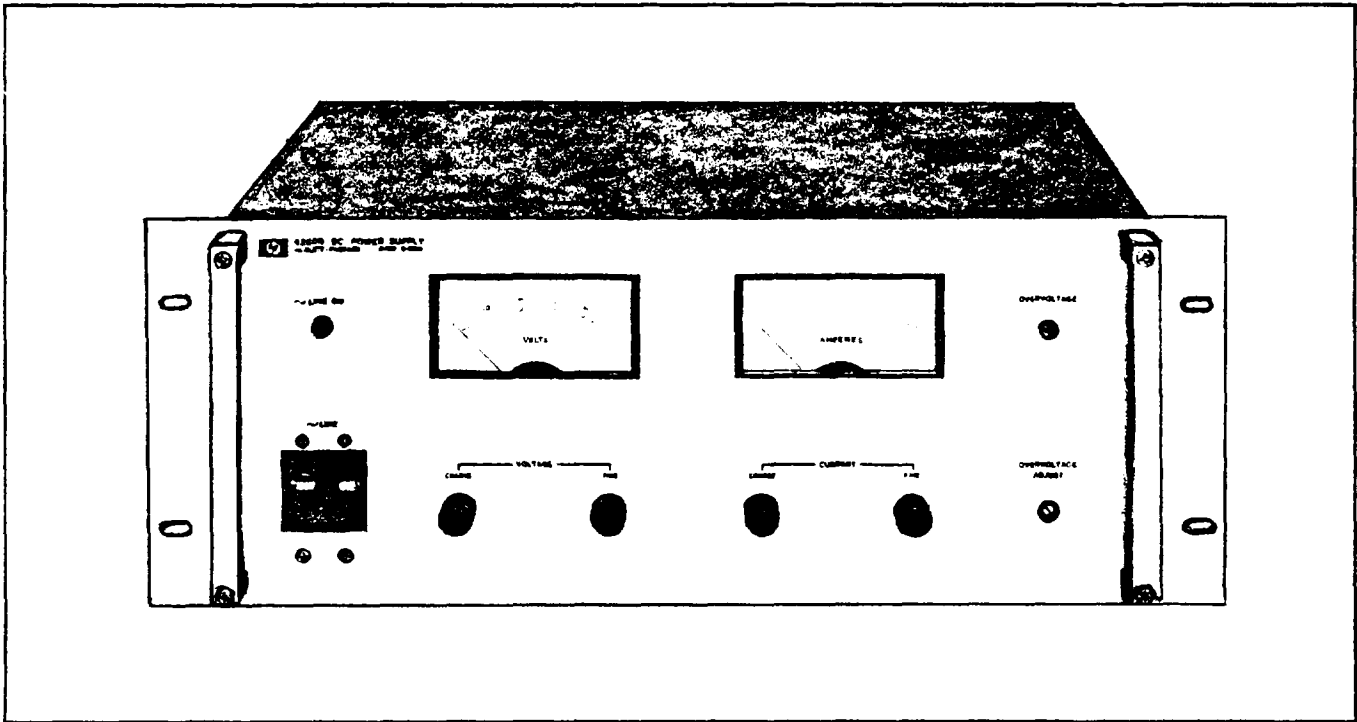

Figure 1-1. DC Power Supply, Model 6259B, 6260B, 6261B, 6268B, or 6269B
a. This manual describes DC Power Supply PP-7545/U (fig. 1-1) and provides maintenance instructions. Throughout this manual, PP-7545/U is referred to as the Hewlett-Packard (HP) Model 6269B DC Power supply.
1-2 This power supply, Figure 1-1, is completely transistorized and suitable for either bench or relay rack operation. It is a well-regulated, constant voltage/constant current supply that will furnish full rated output voltage at the maximum rated output current or can be continuously adjusted throughout the output range. The front panel CURRENT controls can be used to establish the output current limit (overload or short circuit) when the supply is used as a constant voltage source and the VOLTAGE controls can be used to establish the voltage limit (ceiling) when the supply is used as a constant current source. The supply will automatically cross over from constant voltage to constant current operation and vice versa if the output current or voltage exceeds these preset limits.